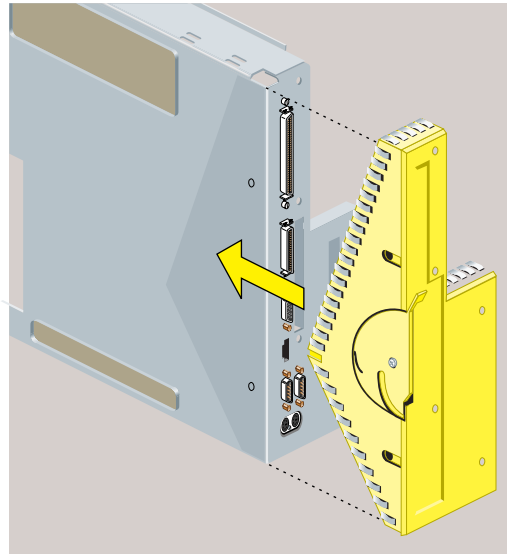

Figure 5-17 Replacing the Face Plate
- Align the face plate on the system module (Figure 5-17).